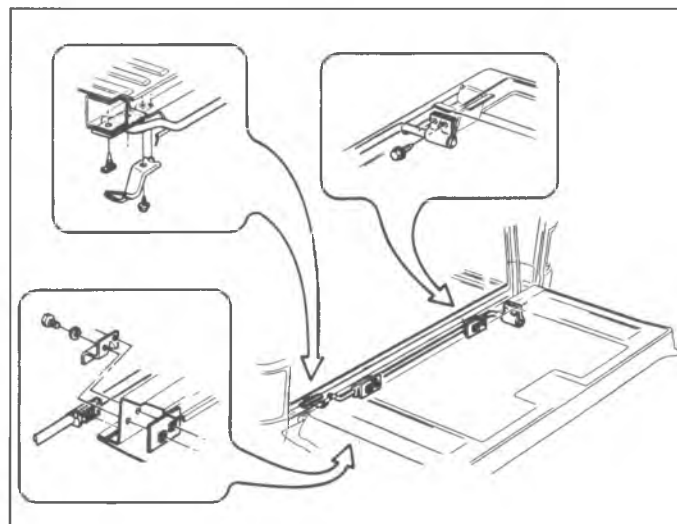

Fig. 51—Torque Rod—(06 Only)
3. Remove L.H. torque rod bracket, shown in figure 51.
5. Remove R.H. torque rod bracket screws, figure 51, then remove torque rod from endgate.